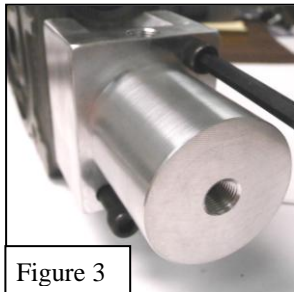

Figure 3
3. Install Cap Screws through mounting holes in Cylinder Body and tighten to 12 ft-lbs using 3/16" hex wrench as shown in Figure 3.